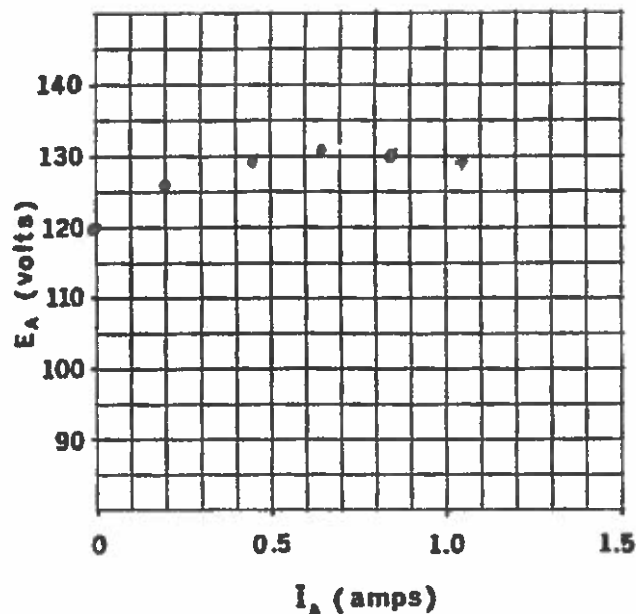

Figure 29-5.
4. Plot the E_A vs I_A regulation curve on the graph of Figure 29-5. Use the data from Table 29-1.